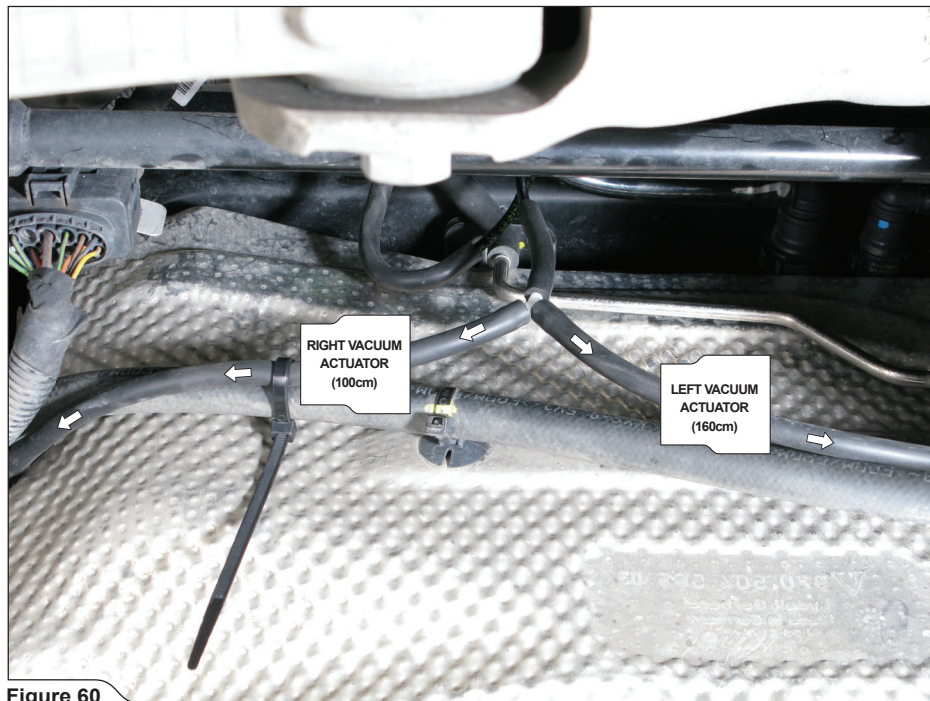

Figure 60
8. Link the Akrapovič vacuum hoses from plastic Y piece distributor to the vacuum actuators; LEFT: 160cm vacuum hose, RIGHT: 100cm vacuum hose (**Figure 60, 61, 62**).